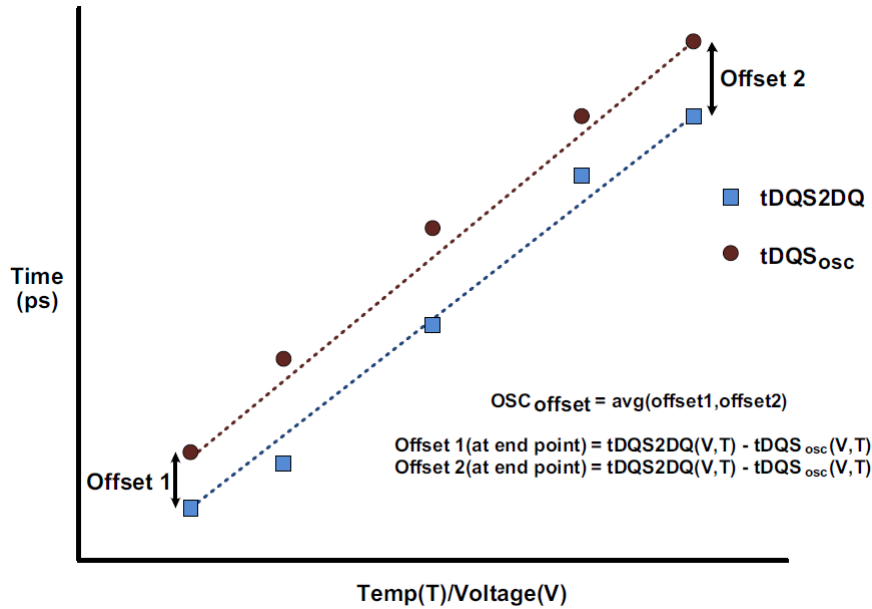

Figure 106: Interval oscillator offset OSCOffset
- OSCOffset: Average delay difference over voltage and temp(shown in Figure 106)